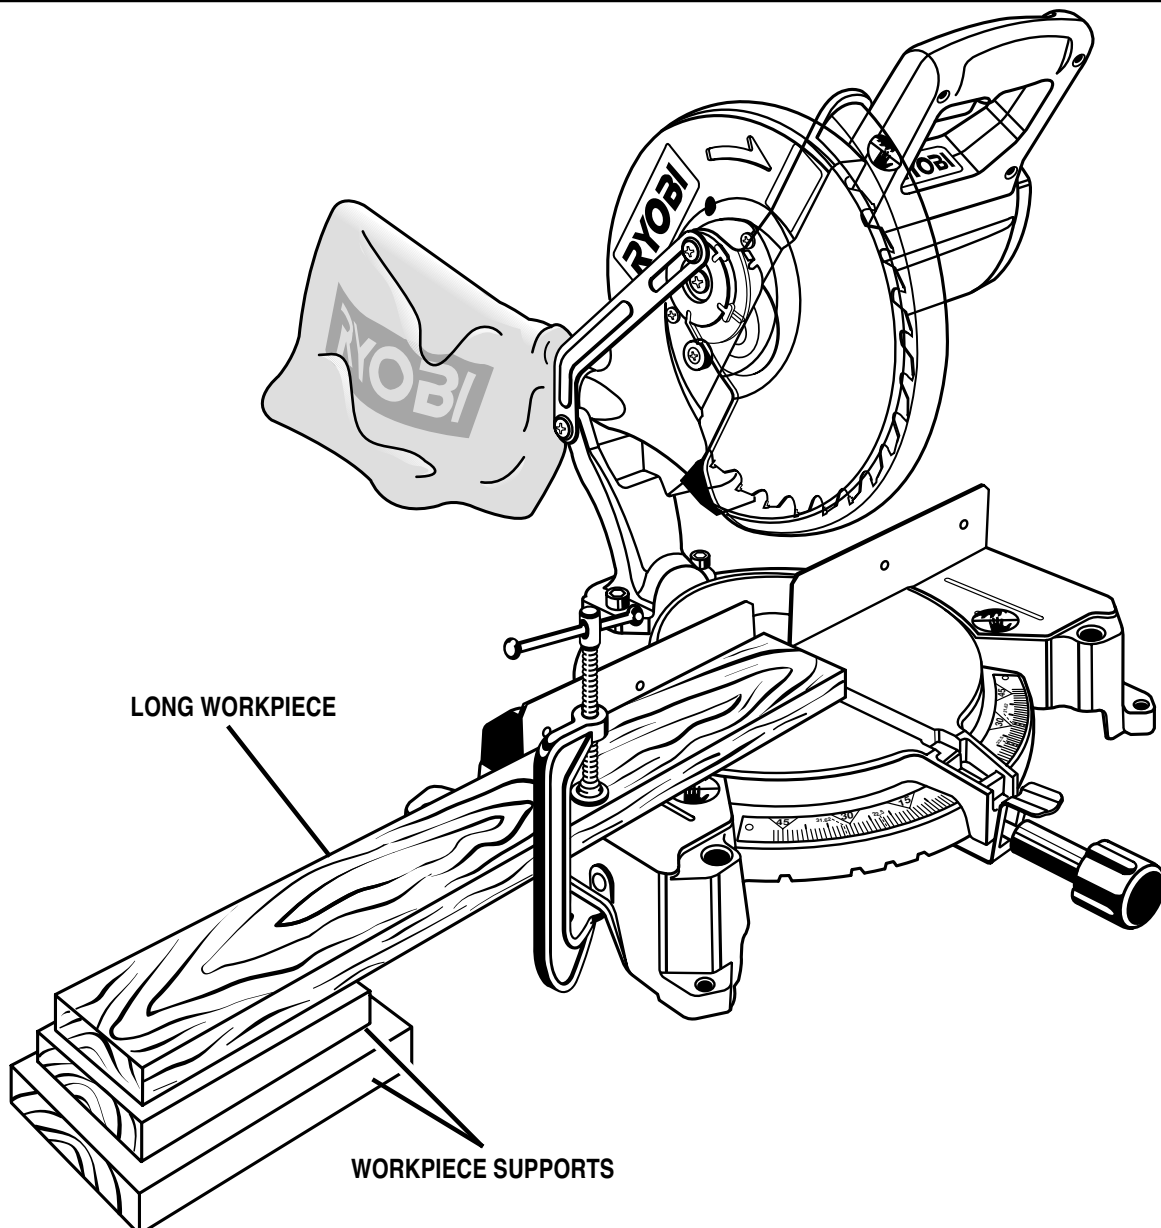

Fig. 25
See Figure 25.
- When cutting long pieces of lumber or molding, support the opposite end of the stock with a roller stand or with a work surface level with the saw table. See Figure 25.